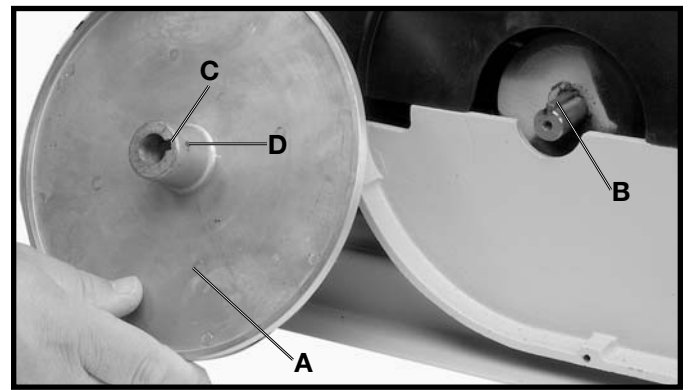
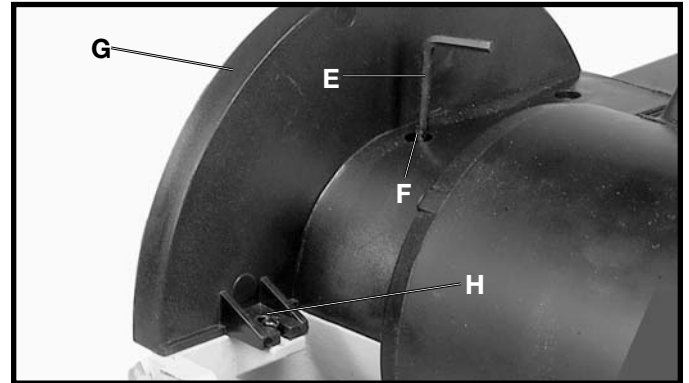

Fig. 9
Fig. 10
2. Assemble the sanding disc plate (A) Fig. 9, to the motor shaft with the key (B) in the motor shaft, engaged with the keyway (C) in the hub of the sanding disc.
3. Rotate the sanding disc until the set screw (D) Fig. 9, is in the up position. Insert the 2.5mm wrench (E) Fig. 10, through hole (F) Fig. 10, and tighten sanding disc set screw (D) Fig. 9.
4. Adjust the disc guard so that the lip (G) Fig. 10, covers the outer edge of the sanding disc, but not past the face of the disc, and tighten the two M4x.07x10mm cheese head screws, one of which is shown at (H), that attach the disc guard to the base.